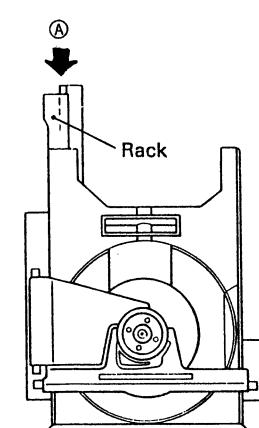

Figure 3-4
1. While pushing the rear edge of the rack Ⓐ in Figure 3-4 (\*1), pull out the disc tray until it pauses (as shown in the Figure 3-5).